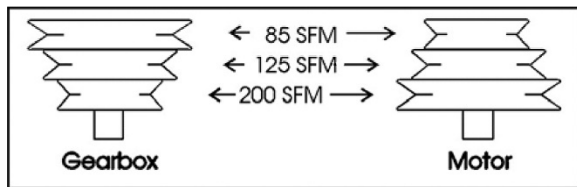

Figure 13: Blade speeds and belt positions
3. With the arm in its fully lowered position, remove the pulley cover lock screw and open the pulley cover. Refer to *Figure 13* for speeds and belt positions.